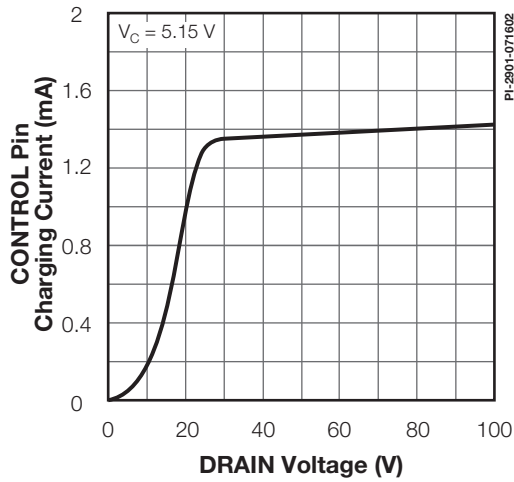

Figure 13. I_C vs. DRAIN Voltage.
- E. It is possible to start up and operate LinkSwitch at DRAIN voltages well below 36 V. However, the CONTROL pin charging current is reduced, which affects start-up time, auto-restart frequency, and auto-restart duty cycle. Refer to the characteristic graph on CONTROL pin charge current (I_C) vs. DRAIN voltage (Figure 13) for low voltage operation characteristics.